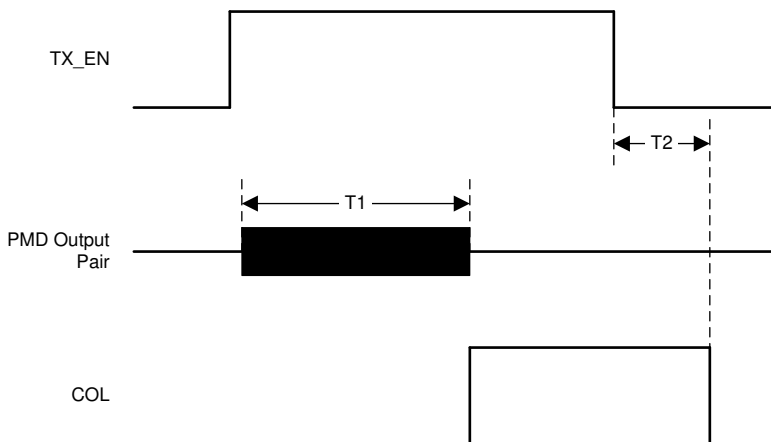

Figure 6-15. 10BASE-Te Jabber Timing
- (1) Specified by production test, characterization, or design.
(2) See Figure 6-15.